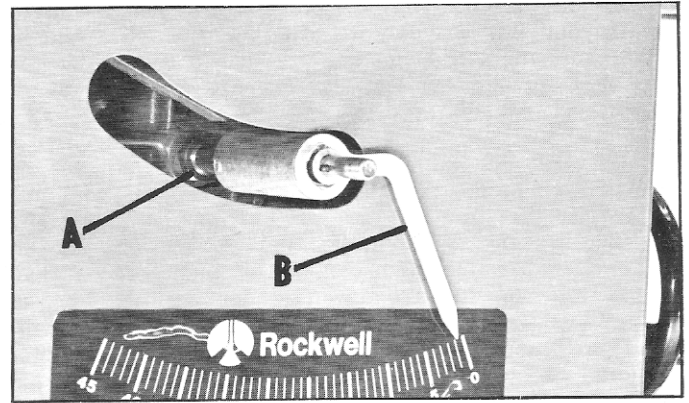

Fig. 28
2. Loosen lock nut (A) Fig. 28, and using the pointer (B) as a lever turn to the right or left until all the perceptible play between the worm and arbor bracket is removed.